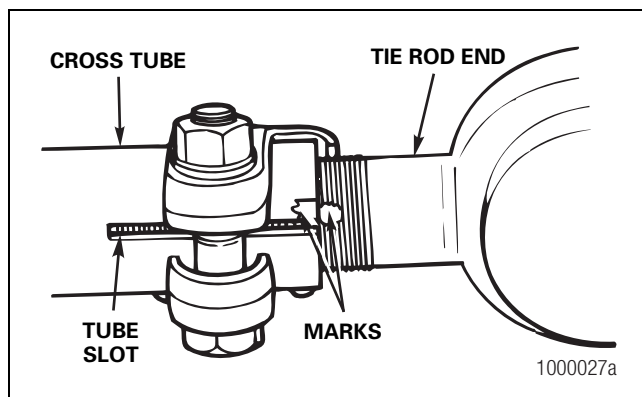

Figure 3.2
- A. Mark the position that each tie rod end is installed into the cross tube. Count and record the number of threads that appear outside of the cross tube. Figure 3.2.